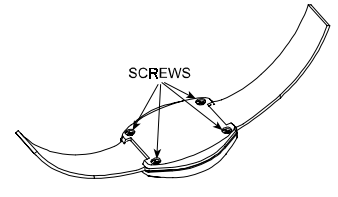

Figure 2. Opening the Case
B. Loosen and remove the 4 screws where shown in Figure 2. Take care not to lose the screws.